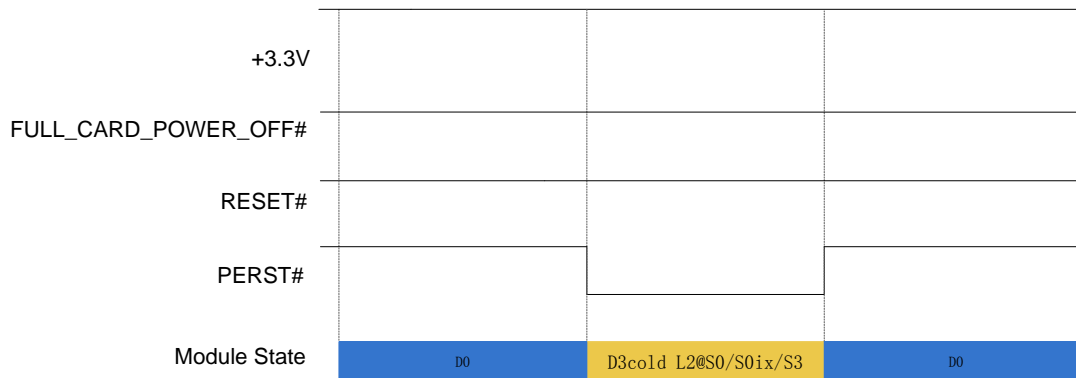

Figure 3-10 PCIe reset timing
->D0 timing is shown in figure 3-10: